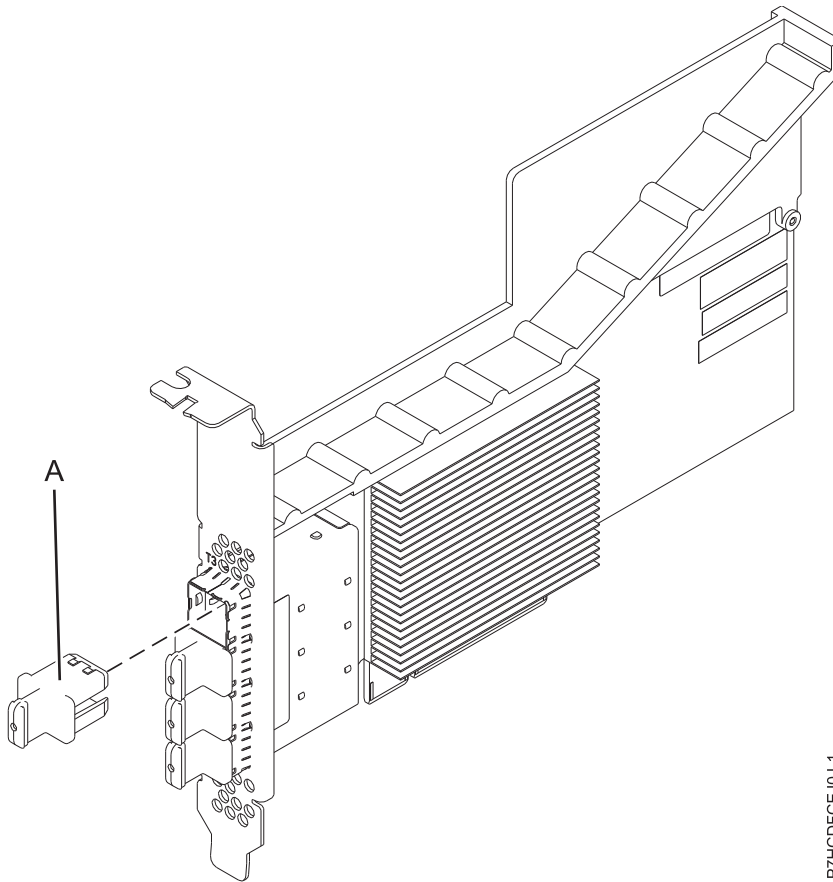

Figure 18. PCIe3 4 x8 SAS Port Adapter
The PCIe3 4 x8 SAS Port Adapter is a PCI Express (PCIe), generation 3, RAID SAS adapter that has a low-profile, short-form factor, but packaged for full height installation. The adapter is used in high-performance and high-density, serial attached SCSI (SAS) applications. It supports the attachment of SAS DVD or SAS tape by using four mini SAS high-density (HD) x4 connectors that allow the physical links to be used in various narrow and wide-port configurations. SAS tape attachment is only supported in a single adapter configuration and cannot be mixed with SAS disk on the same adapter. The adapter does not have write cache. Figure 18 on page 44 shows the PCIe3 4 x8 SAS Port Adapter.
Figure 18 shows the adapter. The connector plug (A) is installed in an empty port and prevents damage to that port whenever a cable for the adjacent port connectors is plugged-in or removed.